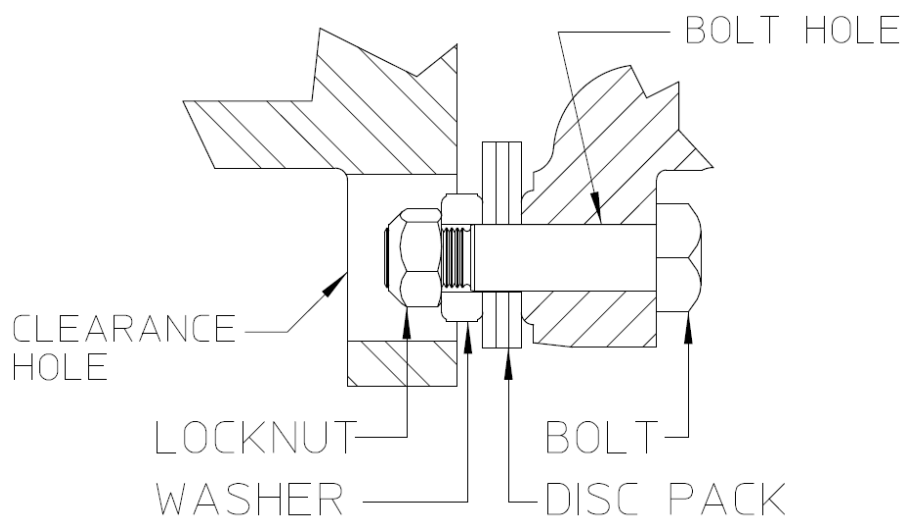

Figure 9 – AMR/CMR Bolted Joint
- 10.1.4. Slide a disc pack over the bolts on the end that will mate to the flywheel adapter. Add the washers. See Figure 9.